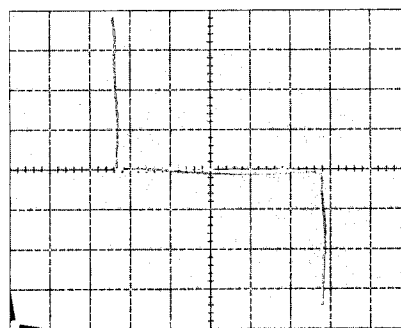

Figure 5-1. Gain curve with a 2-K Ω load, 1mV/div vertical sensitivity.
- 5) Check gain against limits — Press UPPER and LOWER STORE buttons on 577 to obtain a clear, lasting trace. If necessary, press UPPER and LOWER ERASE first to clear screen. Check to see that vertical displacement is within specified value [1 div, or 1mV] at specified points [+ and -2 divs from center], and that gain does not vary excessively over op amp's working output range. Refer to Figure 5-1. **3 2**